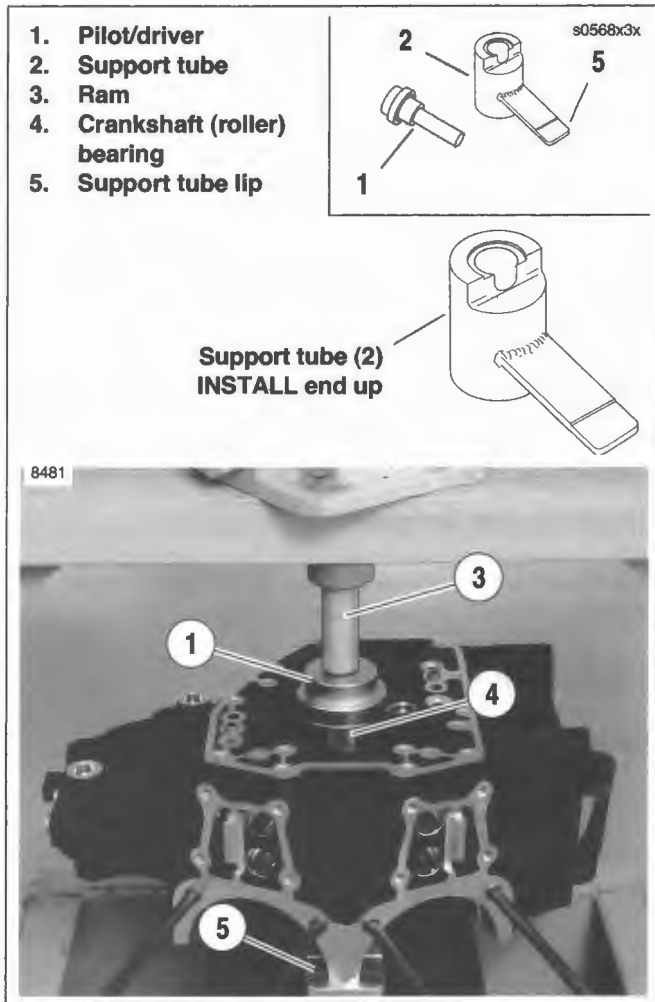

Figure 3-141. Right Crankshaft (Roller) Bearing Installation
- See Figure 3-141. Obtain CRANKSHAFT (ROLLER) BEARING REMOVAL/INSTALL PILOT/DRIVER (Part No. HD-44065-1) and CRANKSHAFT (ROLLER) BEARING REMOVAL/INSTALL SUPPORT TUBE (Part No. HD-44065-4).
- Obtain **new** crankshaft (roller) bearing (4). Spread a thin film of clean H-D 20W50 engine oil on O.D. of **new** bearing.
- Place support tube (2) on hydraulic press table with the INSTALL end up. The sides of the support tube are stamped to ensure proper orientation.
- With the outboard side of the right crankcase half facing upward, position crankshaft bearing bore over support tube. Lip on support tube (5) must contact edge of crankcase as shown. This allows the curved portion of the inboard crankcase to contact the top curved portion of the support tube (2).
- Slide pilot/driver (1) through bearing into support tube.
- Center pilot/driver under ram (3) of press. Apply pressure to pilot/driver until resistance is felt. Tool is now bottomed against support tube flange and has properly positioned the crankshaft (roller) bearing in crankcase bearing bore.